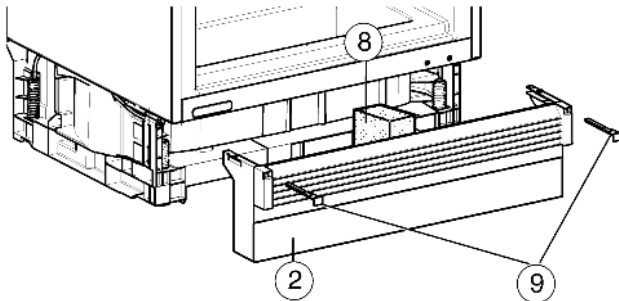

Fig. 13
- ▶ Insert foam element Fig. 13 (8) - functionally important for separate air currents!
- ▶ To fix the plinth: Insert the bolts Fig. 13 (9), while keeping firm hold of the plinth.